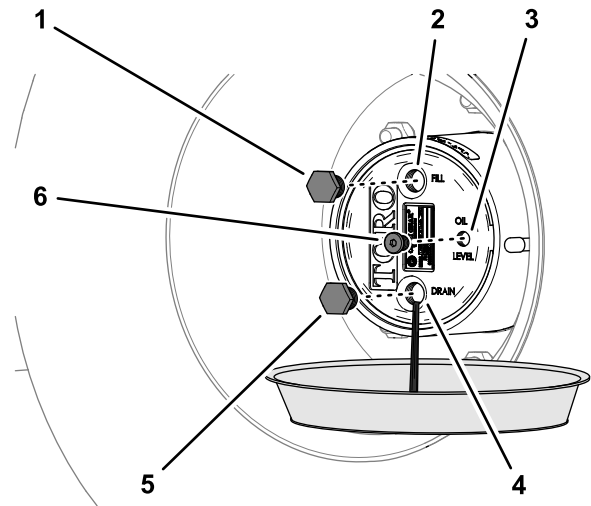

Figure 100
2. Place a drain pan under the hub of the planetary-gear drive, remove the drain plug, fill plug, and the check plug, and allow the lubricant to drain completely (Figure 100).